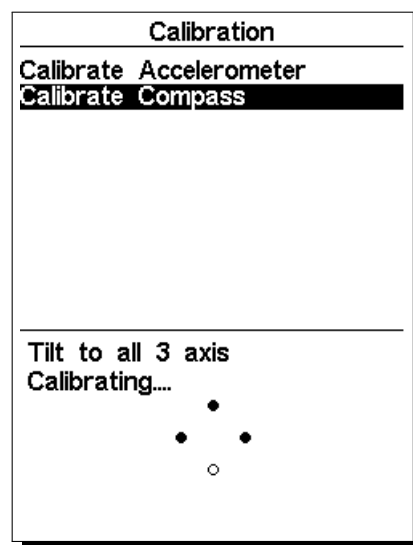

Figure 8.3: Compass Calibration Indication Points
The magnetometer has 3 axes (Figure 8.2) which are associated with the instrument reference frame. Turning the instrument around each of the 3 axes will change the Yaw, Pitch and Roll angles. In order to make a proper calibration the instrument should be turned/rotated slowly in each of the 3 axis. It is not important to make a complete rotation, or the order in which the turns are made. What is important is that instrument is rotated to vary the Yaw, Pitch and Roll from an angle near -90° to $+90^\circ$. An indication of the calibration procedure state is given using 4 circles that are shown at the bottom of the calibration page (see Figure 8.3). The top and bottom circles are associated with the Pitch angle, while the left and right circles are associated with the Roll angle. When the calibration is initiated all the circles are empty (no color). If the instrument is rotated so that the pitch angle gets close to -90° then the top circle is filled black. Similarly, if the pitch angle gets close to $+90^\circ$ then the bottom circle is filled black. The same thing happens with the left and right circles when the instrument is rotated for the Roll angle. No indication is given for the Yaw angle. The calibration procedure is automatically terminated when all the circles become black. In the figure Figure 8.3 all the circles are black except the bottom one. The complete calibration procedure can be summarized in the following points:
1. Go to Menu->Settings->Calibration and choose the "Calibrate Compass" option (see Figure 8.3);